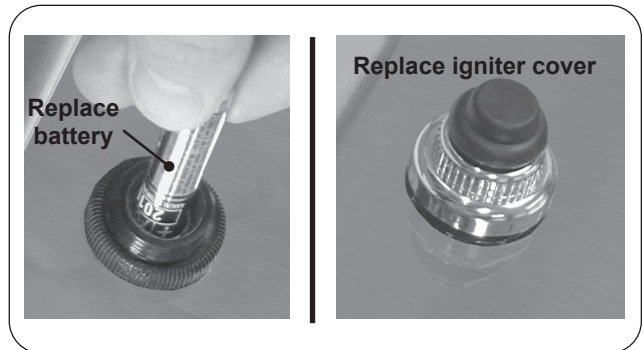

Fig. 38-2 Replace battery
2. Remove battery for replacement. Install the new AAA battery with the negative (-) end out (see Fig. 38-2).
3. After properly inserting the battery, replace the igniter cover by turning the cap clockwise (see Fig. 38-2).